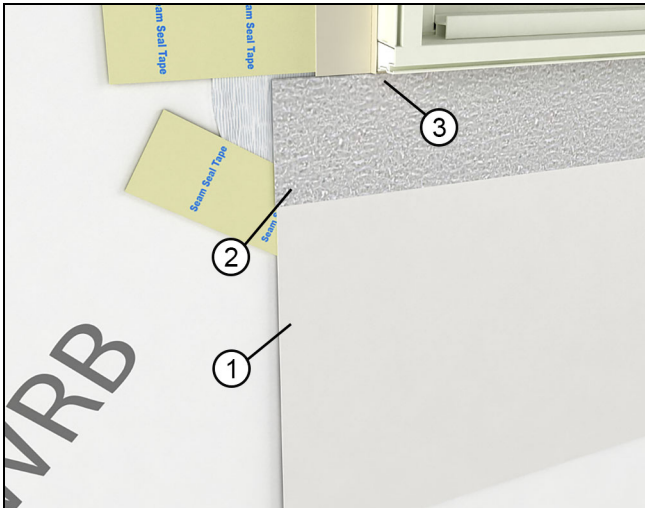

Figure 12
**5. Optional Skirt:** Install an optional "skirt" in applications with exposure to wind driven rain/climate. Use flashing material or a 12" (305) strip of WRB and attach to the sill of the window with seam seal tape or flashing tape. See Figure 12.